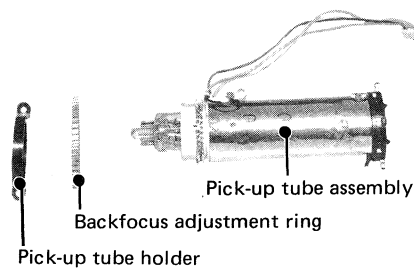

Fig. 3-1-7
- Take out the backfocus adjusting ring and pick-up tube holder from the pick-up tube and deflection coil assembly. (Fig. 3-1-7)
- Reinstall the backfocus adjusting ring and pick-up tube holder to pick-up tube assembly. (See Fig. 3-1-7 on page 4)